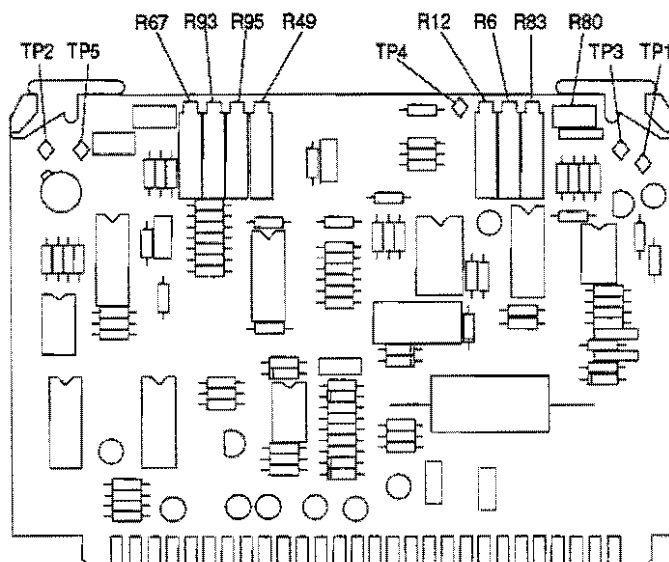

Figure 10-17. A6 PCB Component Locations
- Step 8.** Connect the digital multimeter test leads between A6TP5 (+) and A6TP1 (-) (Figure 10-17).
- Step 3.** Adjust A6R49 (Figure 10-17) counterclockwise for 0V (TTL low).
Step 1. Connect digital multimeter between A6TP4 (+) and A6TP1 (–) (Figure 10-17).
Step 8. Adjust A6R12 (Figure 10-17) for 2.100 GHz \pm 2 MHz.
Step 11. Adjust A6R6 (Figure 10-17) for 7.9 GHz \pm 2 MHz.
- Step 2.** Adjust A6R83 (Figure 10-17) for 1 GHz ± 1 MHz.